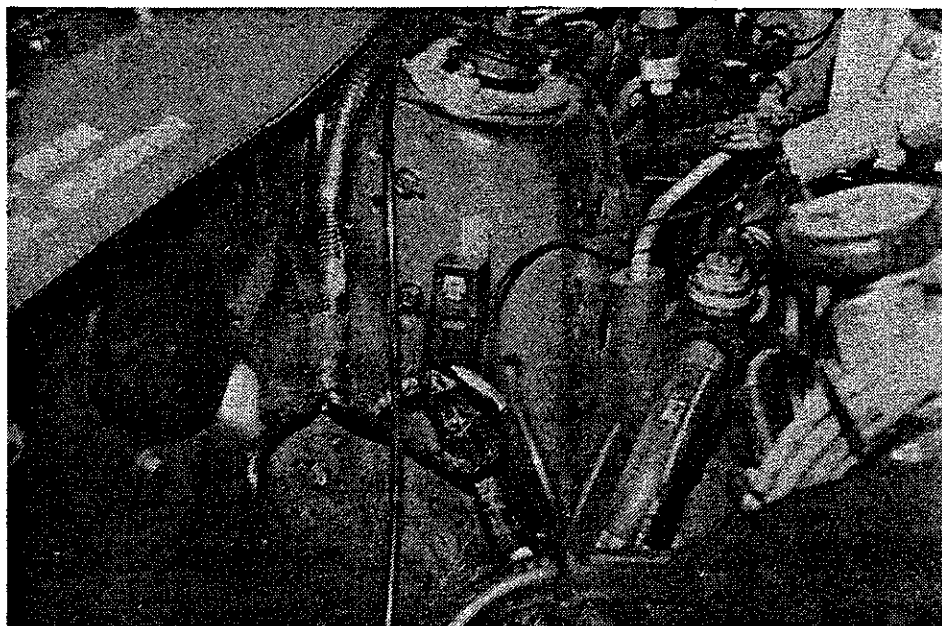

FIGURE 12
16. Relocate Relay, near the Air Filter location, onto the strut tower, as shown in Figure 12, using the stock sheet metal screw.